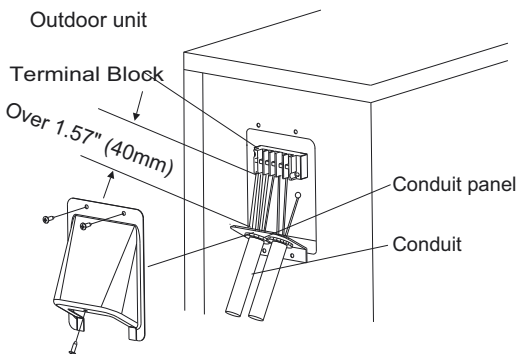

Fig. 10 – Field Wiring
5. Connect the conduit to conduit panel (see Fig. 10).